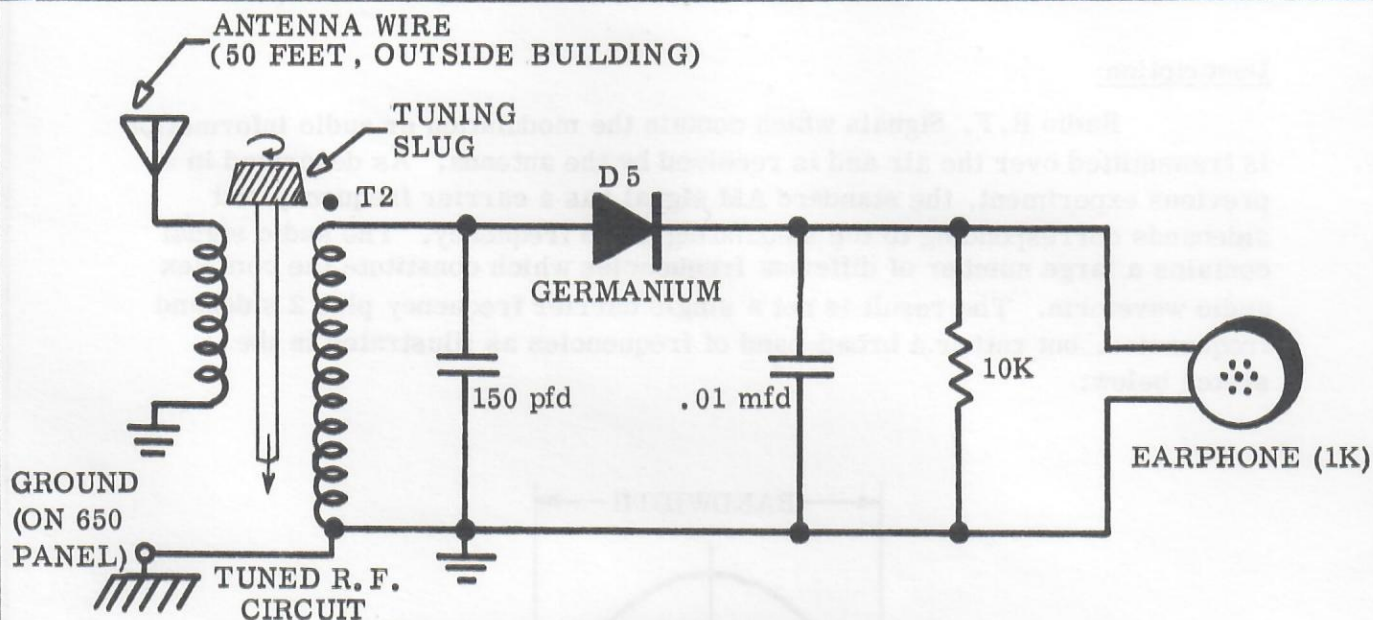

Figure 8-1 Diode A.M. Radio Detector
The simplest form of radio receiver is as shown in Figure 8-1. This circuit is called a "Tuned Radio Frequency" Receiver or TRF Receiver. The LC Tuning Circuit is adjusted to the resonant frequency of the desired station. The Demodulator or Detector provides the Audio signal, and the Earphone or headset enables us to hear the radio.
1. Wire the simple TRF Radio in Figure 8-1. Connect a long (over 20 feet) antenna outside of the building. Connect the ground to the "panel ground" which is connected to the master electrical ground if a 3 wire socket is used.